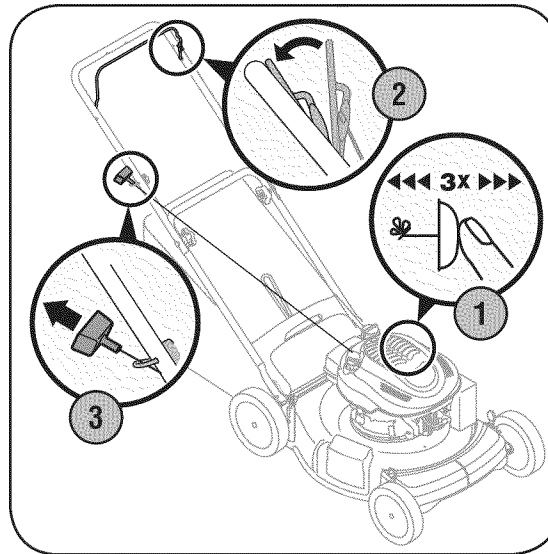

Figure 4-2: Starting the 435A mower.
1. Push primer three times. Wait about two seconds between each push, Figure 4-2. In temperature around 55° F or below, prime five times. Do not prime to restart a warm engine.
2. Standing behind the mower, squeeze the blade control against upper handle, Figure 4-2.
3. Holding these two handles together firmly, grasp recoil starter handle and pull rope out with a rapid, continuous, full arm stroke, Figure 4-2. Keeping a firm grip on the starter handle, let the rope rewind slowly. Repeat until engine cranks. Let the rope rewind each time slowly.